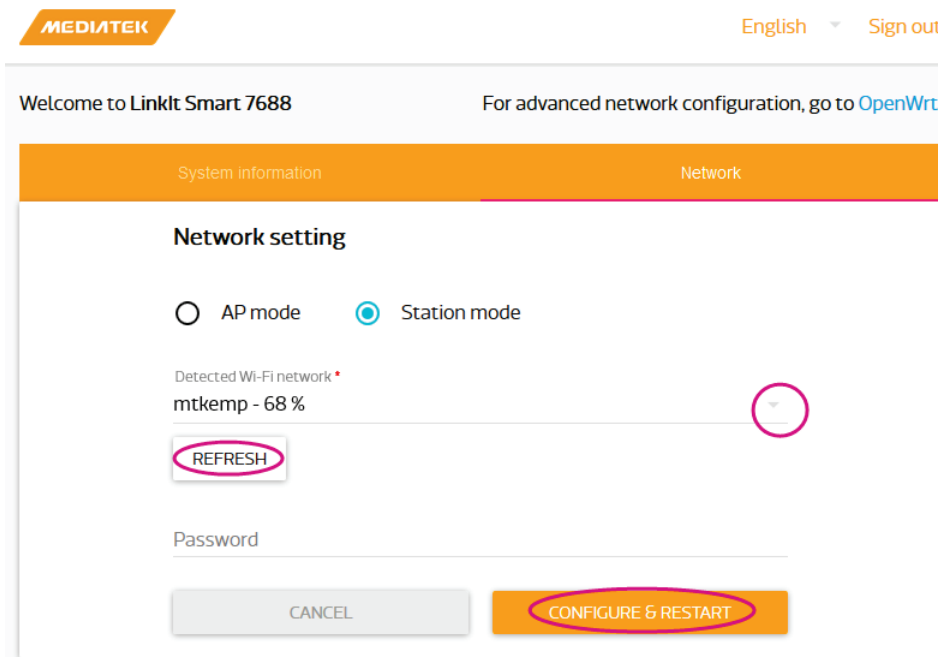

Figure 21 Changing to Station mode in Web UI
- 2) Select the **station mode** and click the **Refresh** button or **downward arrow** on the right to find the AP to connect to. After you’ve selected the AP, enter password if required. Click **Configure & Restart** button to finish as shown in Figure 21.